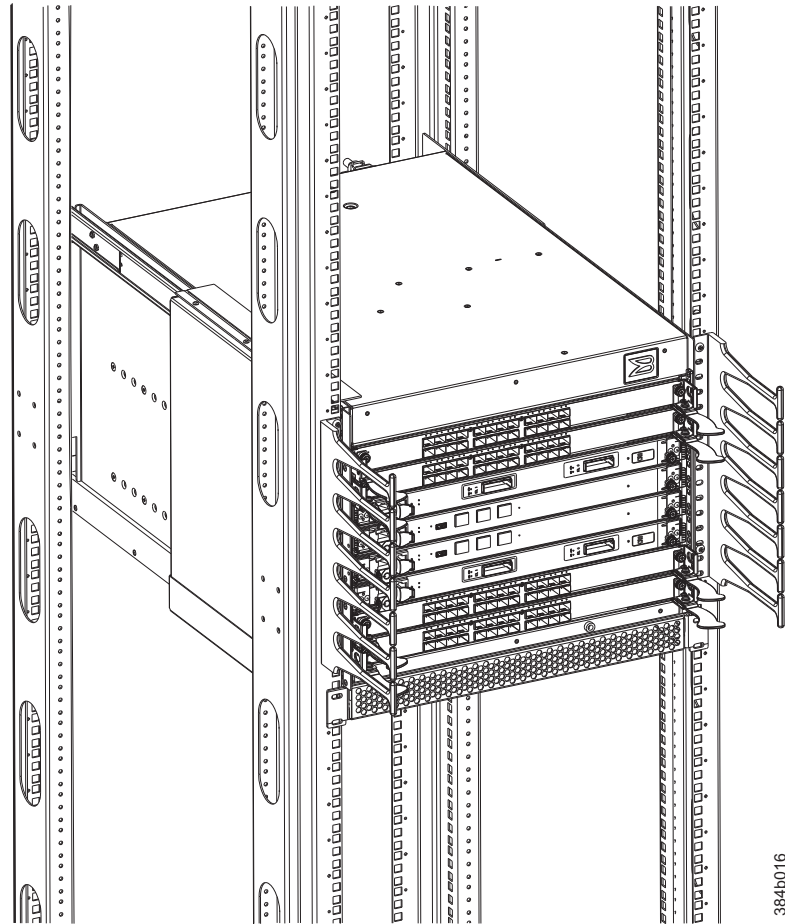

Figure 15. Attaching the vertical cable management finger assemblies to the cabinet rails
14. Attach the two cable management finger assemblies to the cabinet vertical rails, using two screws each. The two assemblies are identical and can be installed on either side. The screws will extend through the chassis flange used to attach the chassis to the cabinet rails, and into the clip nuts you have installed. Select the holes on the cable management assemblies that match two of the holes on the chassis flange. You will be able to position the cable management finger assemblies either towards the top of the chassis or towards the bottom of the chassis, depending on your requirements for routing cables. The third screw for each side is used to secure the chassis to the rails, directly through the chassis flange into the clip nuts. These screws do not attach the cable management assemblies to the chassis or rack. Figure 15 on page 29 shows the cable management fingers positioned towards the top of the chassis.